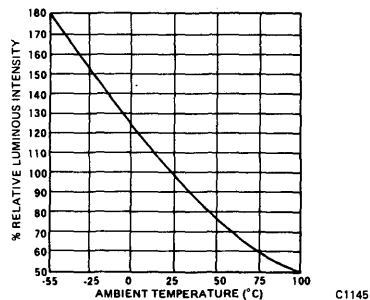

Figure 2 Luminous Intensity vs. Temperature C1145
- The curve in Figure 2 is normalized to the brightness at 25°C to indicate the relative efficiency over the operating temperature range.